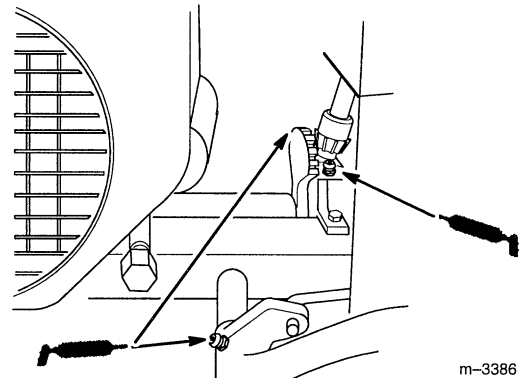

Figure 23
3. Lubricate the pedal(s) where it pivots on the mounting shaft, steering shaft and spread grease on steering sector teeth (Fig. 23).